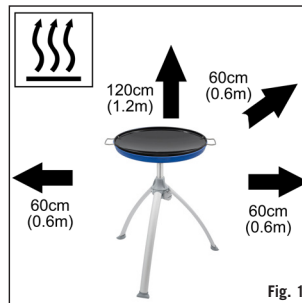

Fig. 1
- Do not cover up or change the burner pan (F) air holes on the base plate, as it will influence the flow of air to the stem air holes located inside the tripod housing (J). This, in turn, will affect the performance of the product and may lead to an unstable flame
- Ensure the appliance is used away from flammable materials. Minimum safe distances are: Above the appliance 1.2m. At the rear and sides 600mm. (See Fig.1)